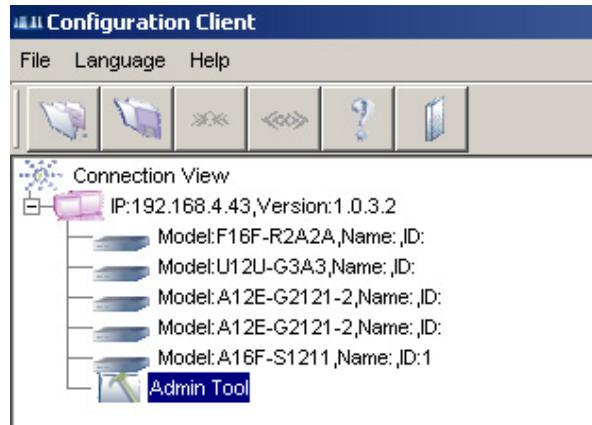

Figure 4-10: Left Column of Configuration Client User Interface
**Step 7.** Double-click the **Admin Tool** item on the **Connection View** window in the **Configuration Client** User Interface. (See *Figure 4-10*)